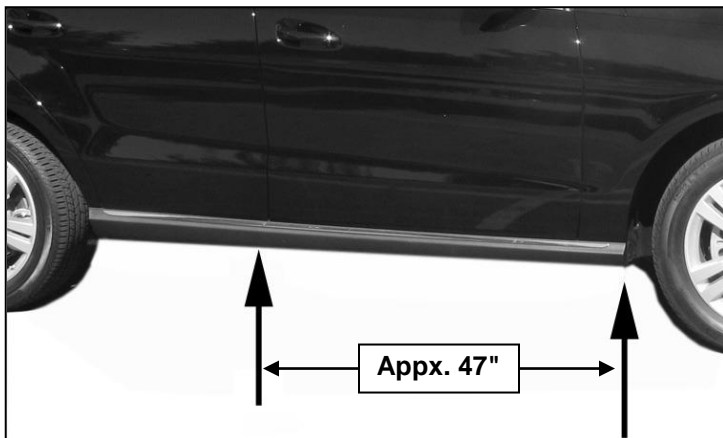

**Fig 4B**
- Select (1) 12mm Bolt Plate and (1) 12mm Plastic Retainer, **(Figure 4A)**. Thread the Retainer part way onto the Bolt Plate. Insert the Bolt Plate into the hole in the floor panel, **(Figure 4B)**. Thread the Retainer down until it is tight against the floor panel. **IMPORTANT:** The Plastic